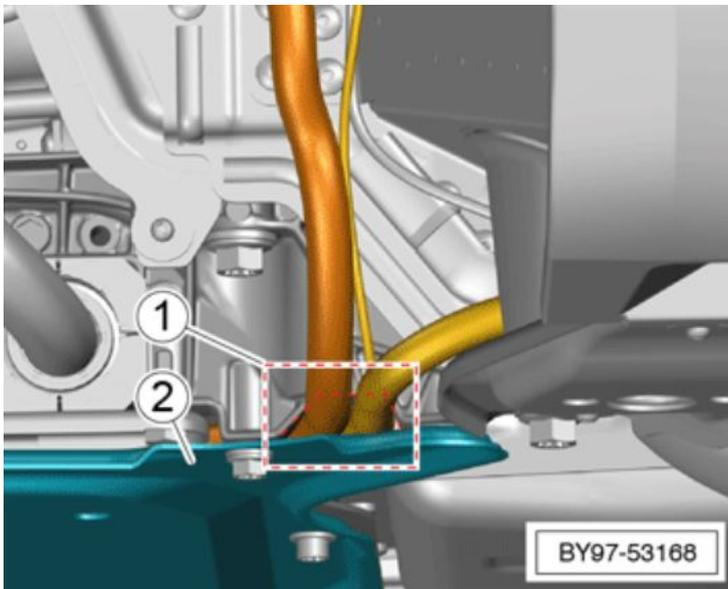

Figure 4. Front Subframe support to steering rack harness location
- Ensure the anti-roll bar wiring and steering rack harness is positioned correctly between the subframe -1- and the subframe rear support -2- to avoid any trapping/pinching etc. See figure 4.